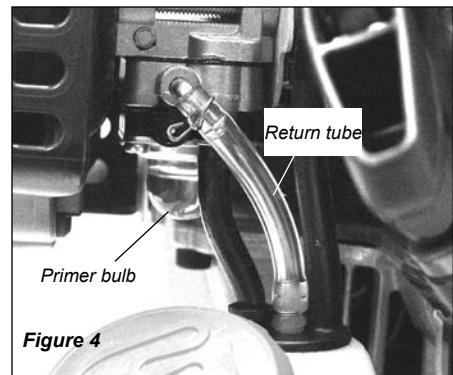

Figure 4
3. Press the primer bulb until fuel can be seen flowing in the transparent return tube. See Figure 4.